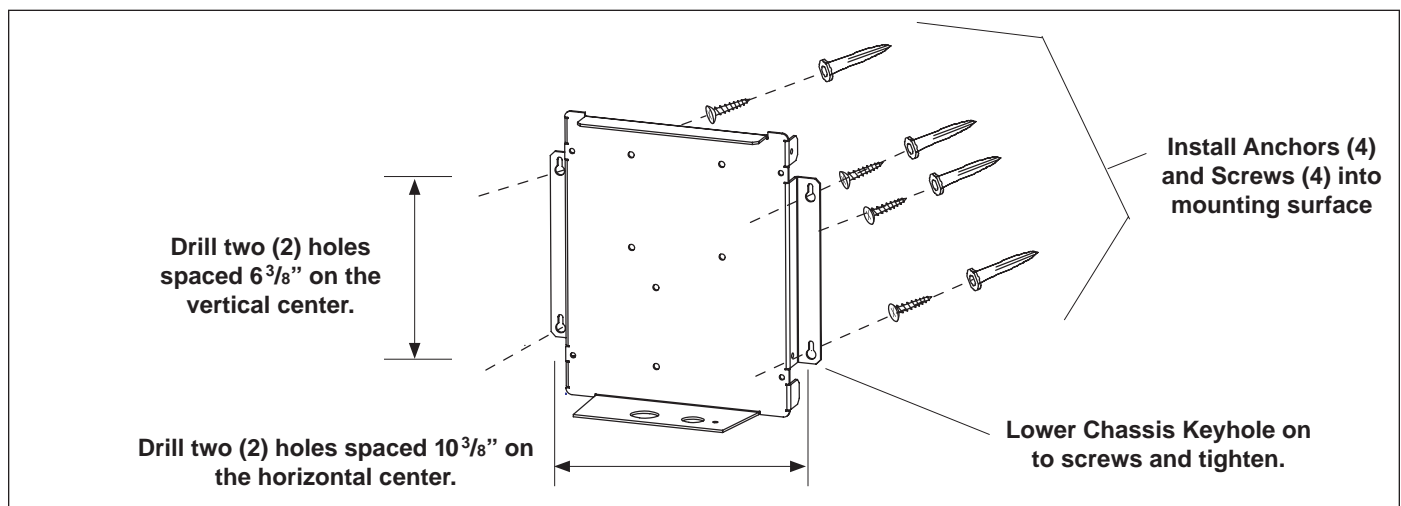

Figure 6. Mounting the Control Center Chassis Backplate
2. Use hardware provided and mount the control center at eye level. Leave sufficient clearance on all sides of the chassis backplate. If possible, leave a minimum of 9½ inch (241 mm) on the left side. Position the backplate on the mounting surface. Mark screw centers and drill four ¼ inch (6.35 mm) holes spaced 10 ⅜ inches (264 mm) on the horizontal center and 6 ⅜ inches (162 mm) on the vertical center. Install the anchors (provided) into the mounting surface. See Figure 6.